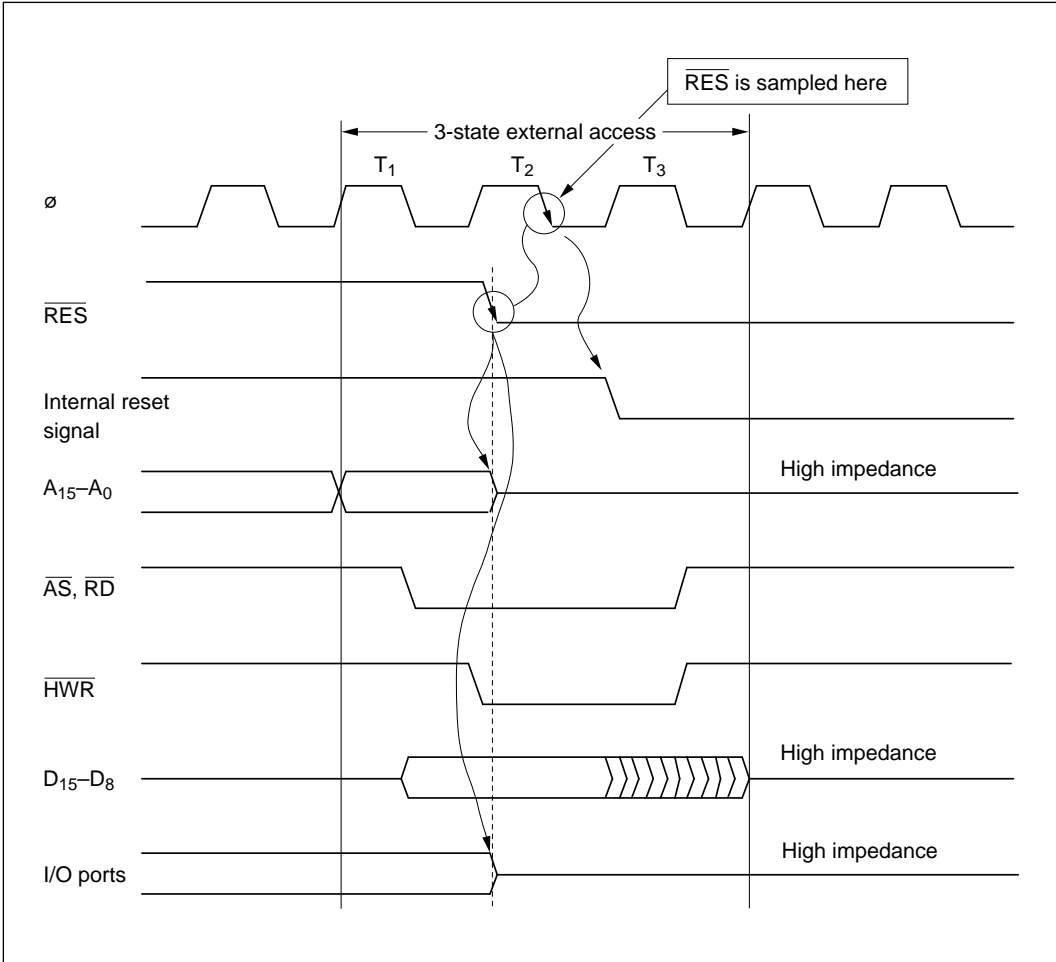

Figure G-2 Reset during Three-State Access (mode 2)
(2) **Mode 2:** Figure G-2 is a timing diagram for the case in which $\overline{\text{RES}}$ goes low during three-state access in mode 2. As soon as $\overline{\text{RES}}$ goes low, all ports are initialized to the input state. $\overline{\text{AS}}$, $\overline{\text{RD}}$, $\overline{\text{LWR}}$, and $\overline{\text{HWR}}$ go high, and D_{15} to D_8 go to the high-impedance state. A_{15} to A_0 are initialized as soon as $\overline{\text{RES}}$ goes low, and become input ports.